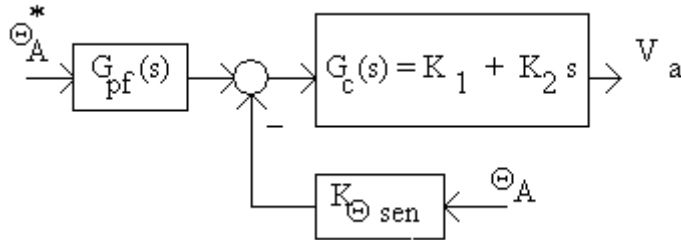

Fig. 3 PD compensator and a prefilter for the antenna position control system
1. Design the PD controller and a prefilter (fig. 3), (20 pts)